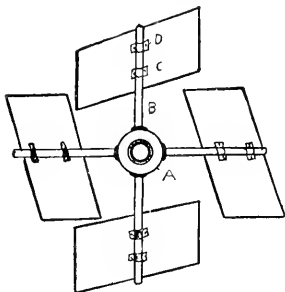

FIG 1
The hub for the revolving fan wheel is first constructed. One good way to get both the hub, lining, shaft and spokes for the blades, is to go to a wheelwright's and purchase the wheel and axle of some old rig. There are always a number of discarded carriages, wagons or parts thereof in the rear of the average blacksmith's shop. Sometimes for half a dollar, and often for nothing, you can get a wheel, an axle, and connected parts. Remove from the wheel, all but the four spokes needed for the fans as in Fig. 1. The same hub, axle and bearings will do. In case you cannot secure a wheel and shaft, the hub may be made from a piece of hardwood, about 4 in. in diameter and 6 in. long. A 2-in. hole should be bored through for a wooden shaft, or a $1\frac{1}{2}$ -in. hole for a metal shaft. The hub may be secured by putting two or three metal pins through hub and shaft. Adjust the spokes by boring holes for them and arrange them so that they extend from the center A, like B. The wheel is then ready for the blades. These
The stand for the wheel shaft is shown in Fig. 2. Arrange the base piece in platform order, (J). This is more fully shown in Fig. 5. On top of this base piece, which is about 36 in. long, place the seat or ring for the revolving table. The circular seat is indicated at L, Fig. 1. This ring is like an inverted cheese box cover with the center cut out. It can be made by a tinner. Size of ring outside, 35 in. The shoulders are 1 in. high and made of tin also. Form the shoulder by soldering the piece on. Thus we get a smooth surface with sides for the mill base to turn in so as to receive the wind at each point to advantage. The N-shaped